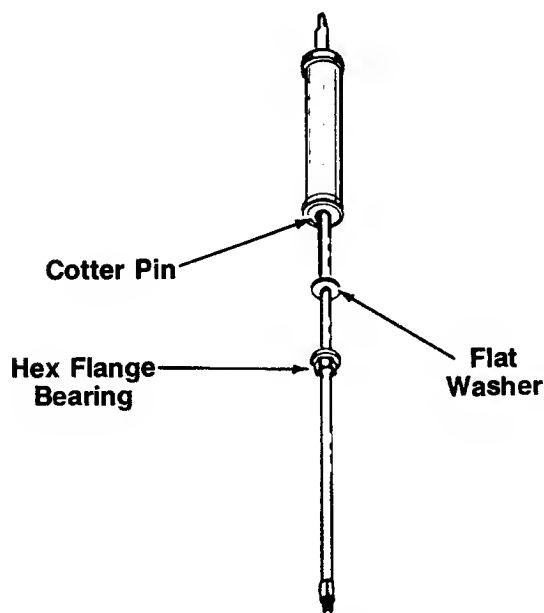

FIGURE 4.—Models 510, 520, 530 and 550
4. Hold the **steering shaft** upright, so that the **cotter pin** is closer to the top of the shaft. Slide the **steering tube spacer** and **steering tube** down over the shaft (above the cotter pin). See figure 4.